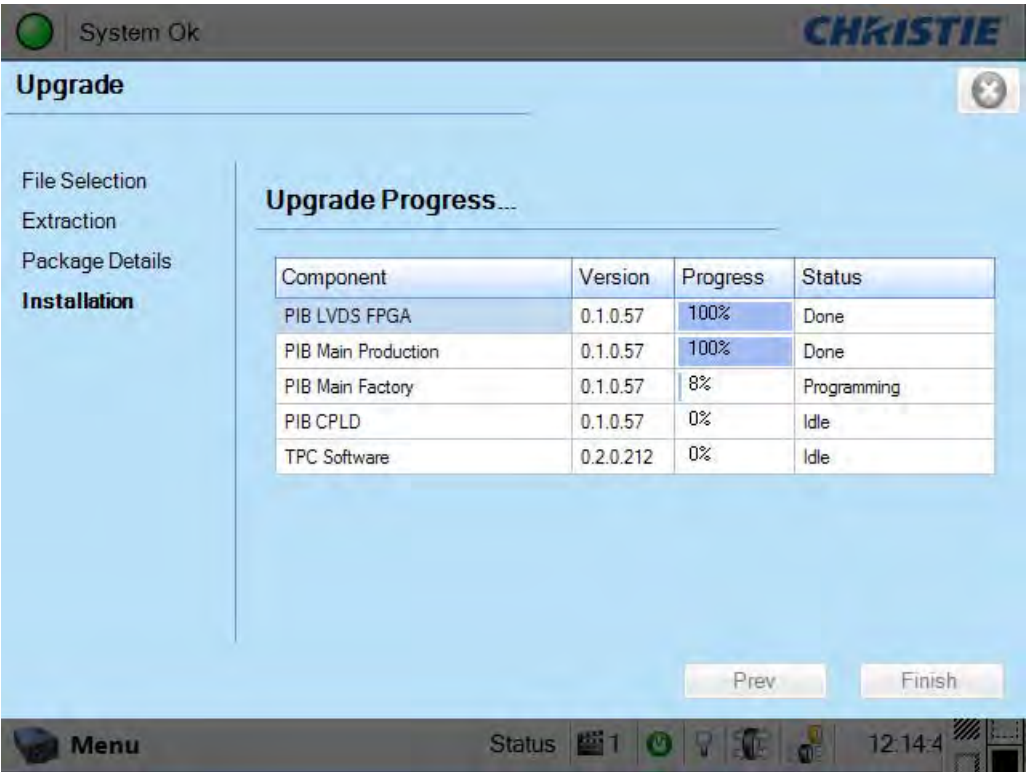

Figure 3-22 Upgrade: Installation Window
5. The **Installation** window displays the state of the upgrade progress. (Figure 3-22). On successful completion or failure of the installation, a dialog will display indicating the state of the upgrade. Click the **OK** button. At this point, the TPC will reboot in order to install the TPC user interface software. The TPC will shut down, reboot, and display an install progress window as the user interface is installed. Once complete, click the **Finish** button to return to the **Main** panel.